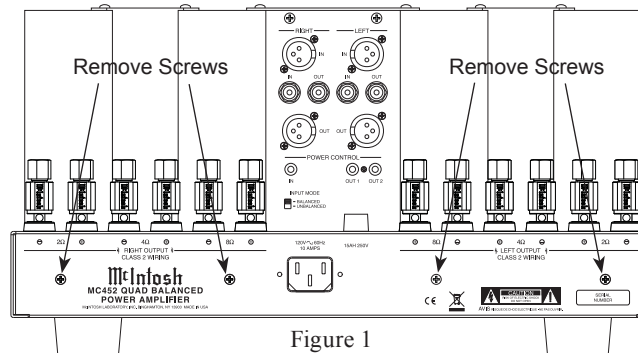

Figure 1
5. Using a suitable tool remove the four screws from the MC452 Rear Panel and temporarily place them in a safe place. Refer to figure 1.